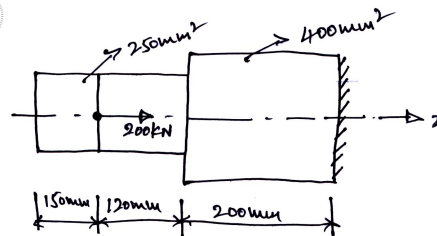

Fig.Q9(c)
c. A stepped bar is subjected to loading as shown in Fig.Q9(c). Take it as a bar element. Determine :